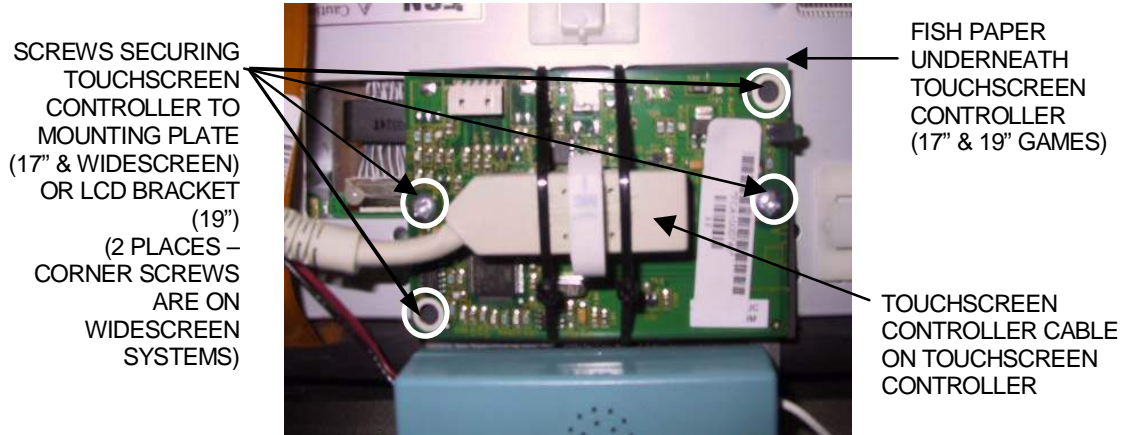

FIGURE 7 - TOUCHSCREEN CONTROLLER
11. Carefully cut the tie wraps around the touchscreen controller cable. If applicable, remove the 2 screws securing the touchscreen controller to its mounting plate (17" and Widescreen) or the LCD bracket (19"). On some 19" games the touchscreen controller is simply secured by Velcro, meaning there are no screws to remove. Remove the controller, as well as the fish paper underneath, though please note there is no fishpaper underneath the touchscreen controller on Widescreen systems. See Figure 7.
4. *For 17" games:* Line up the touchscreen controller on the rectangular piece of fish paper. *If you replaced the touchscreen, connect the touchscreen controller cable to the touchscreen controller and secure with 2 tie wraps, making sure that the wraps go around the fish paper.* Position this touchscreen controller assembly on the mounting plate and secure with 2 screws. See Figure 7.
*For 19" games:* Replace the inverter on the Velcro. Place the rectangular piece of fish paper on the mounting holes on the LCD bracket. *If you replaced the touchscreen, carefully connect the touchscreen controller cable to the touchscreen controller and secure with 2 tie wraps.* Position the touchscreen controller on top of the fish paper and secure to the LCD bracket with 2 screws or simply with Velcro. See Figure 7.
*For Widescreen games:* Resecure the two standoffs to the touchscreen controller bracket, making sure that the standoffs secure this bracket to the rear of the monitor. *If you replaced the touchscreen, carefully connect the touchscreen controller cable to the touchscreen controller, and secure it with two tie wraps.* Position the touchscreen controller over the two standoffs and secure it in place with two screws (see Figure 7). Replace the inverter on the Velcro.